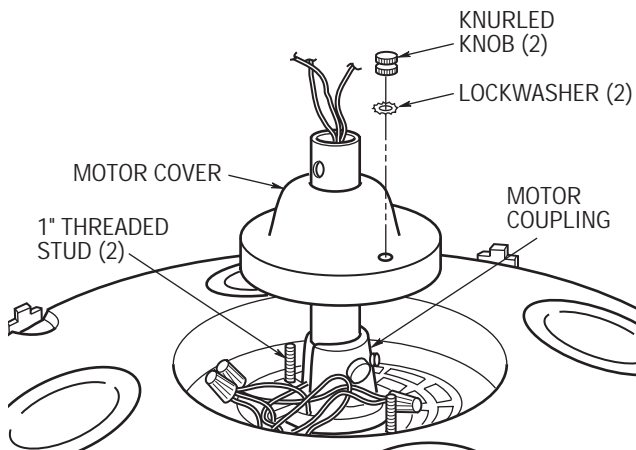

Figure 3
6. Screw two 1" threaded studs (supplied) into the motor (Figure 3). Leave approximately 7/8" of the stud extending above the motor. Coil the wires and wire connectors around the motor coupling then slide the motor cover over the downrod and rotate the cover until the threaded studs protrude. Install two lockwashers (supplied) to secure the cover to the motor. All wires and wire connectors must be enclosed under the motor cover.